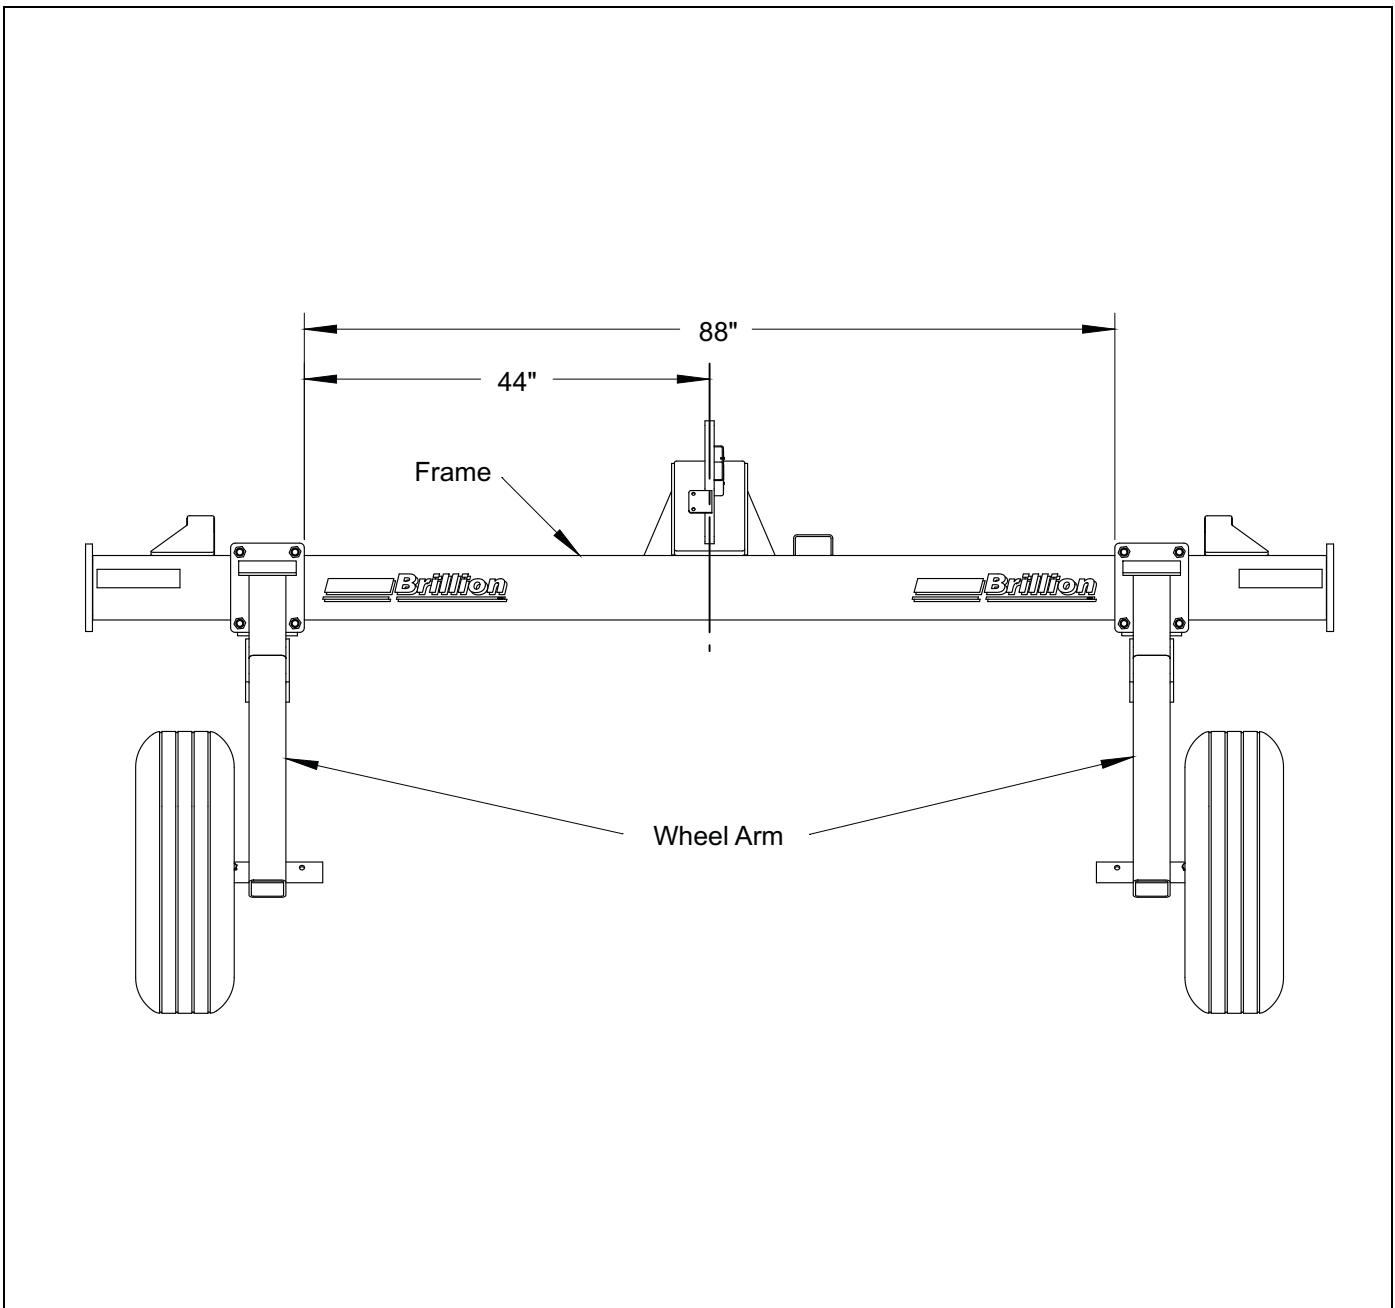
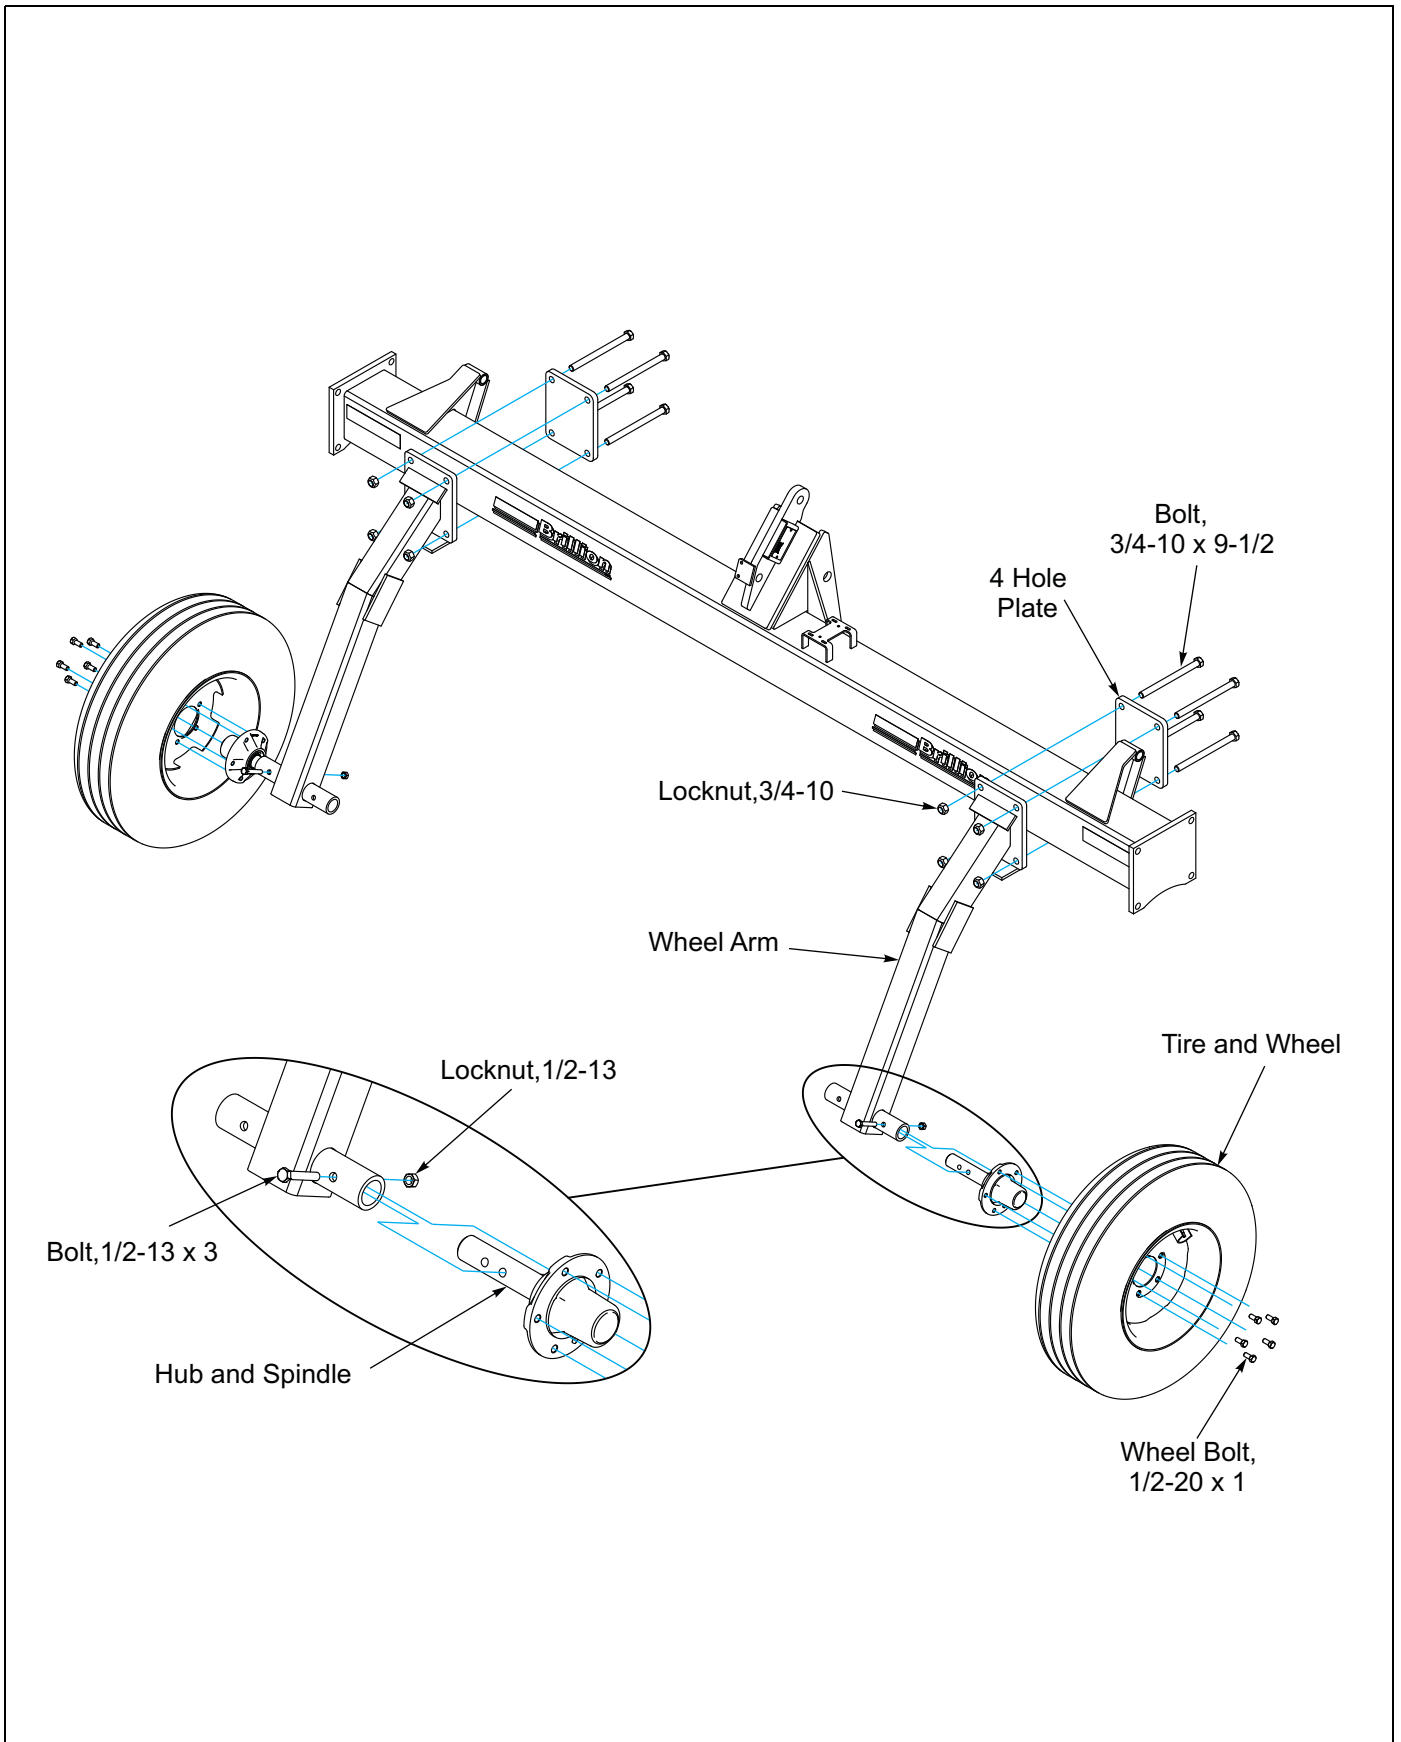

Figure 2-5: Wheel Arm Mounting Dimensions
Figure 2-6: Wheel Arm Assembly
**See Figure 2-5.** Fasten the Wheel Arms to the Frame with 4 Hole Plates and eight 3/4-10 x 9-1/2 Bolts and Locknuts. Insert the Hub and Spindle Assembly into the Wheel Arms, using the hole in the spindle which is closest to the hub. Lock spindle in place with the 1/2-13 x 3 Bolt, secure with Locknut. Attach Tire and Wheel to the Hub and Spindle with the 1/2-20 x 1 Wheel Bolts. **See Figure 2-6.**